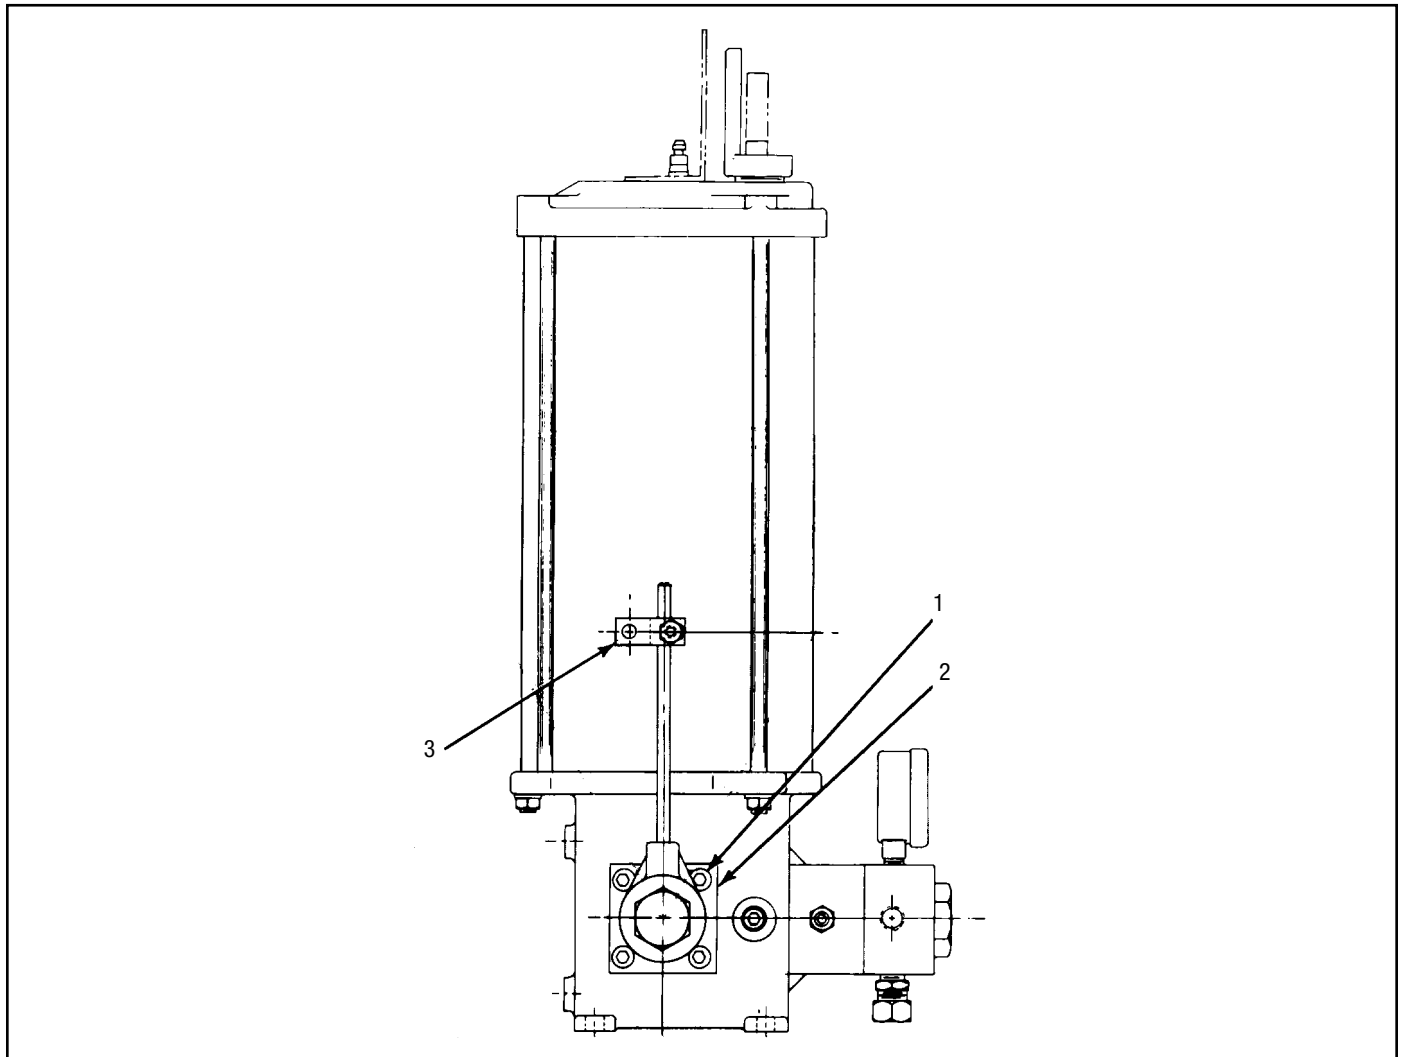
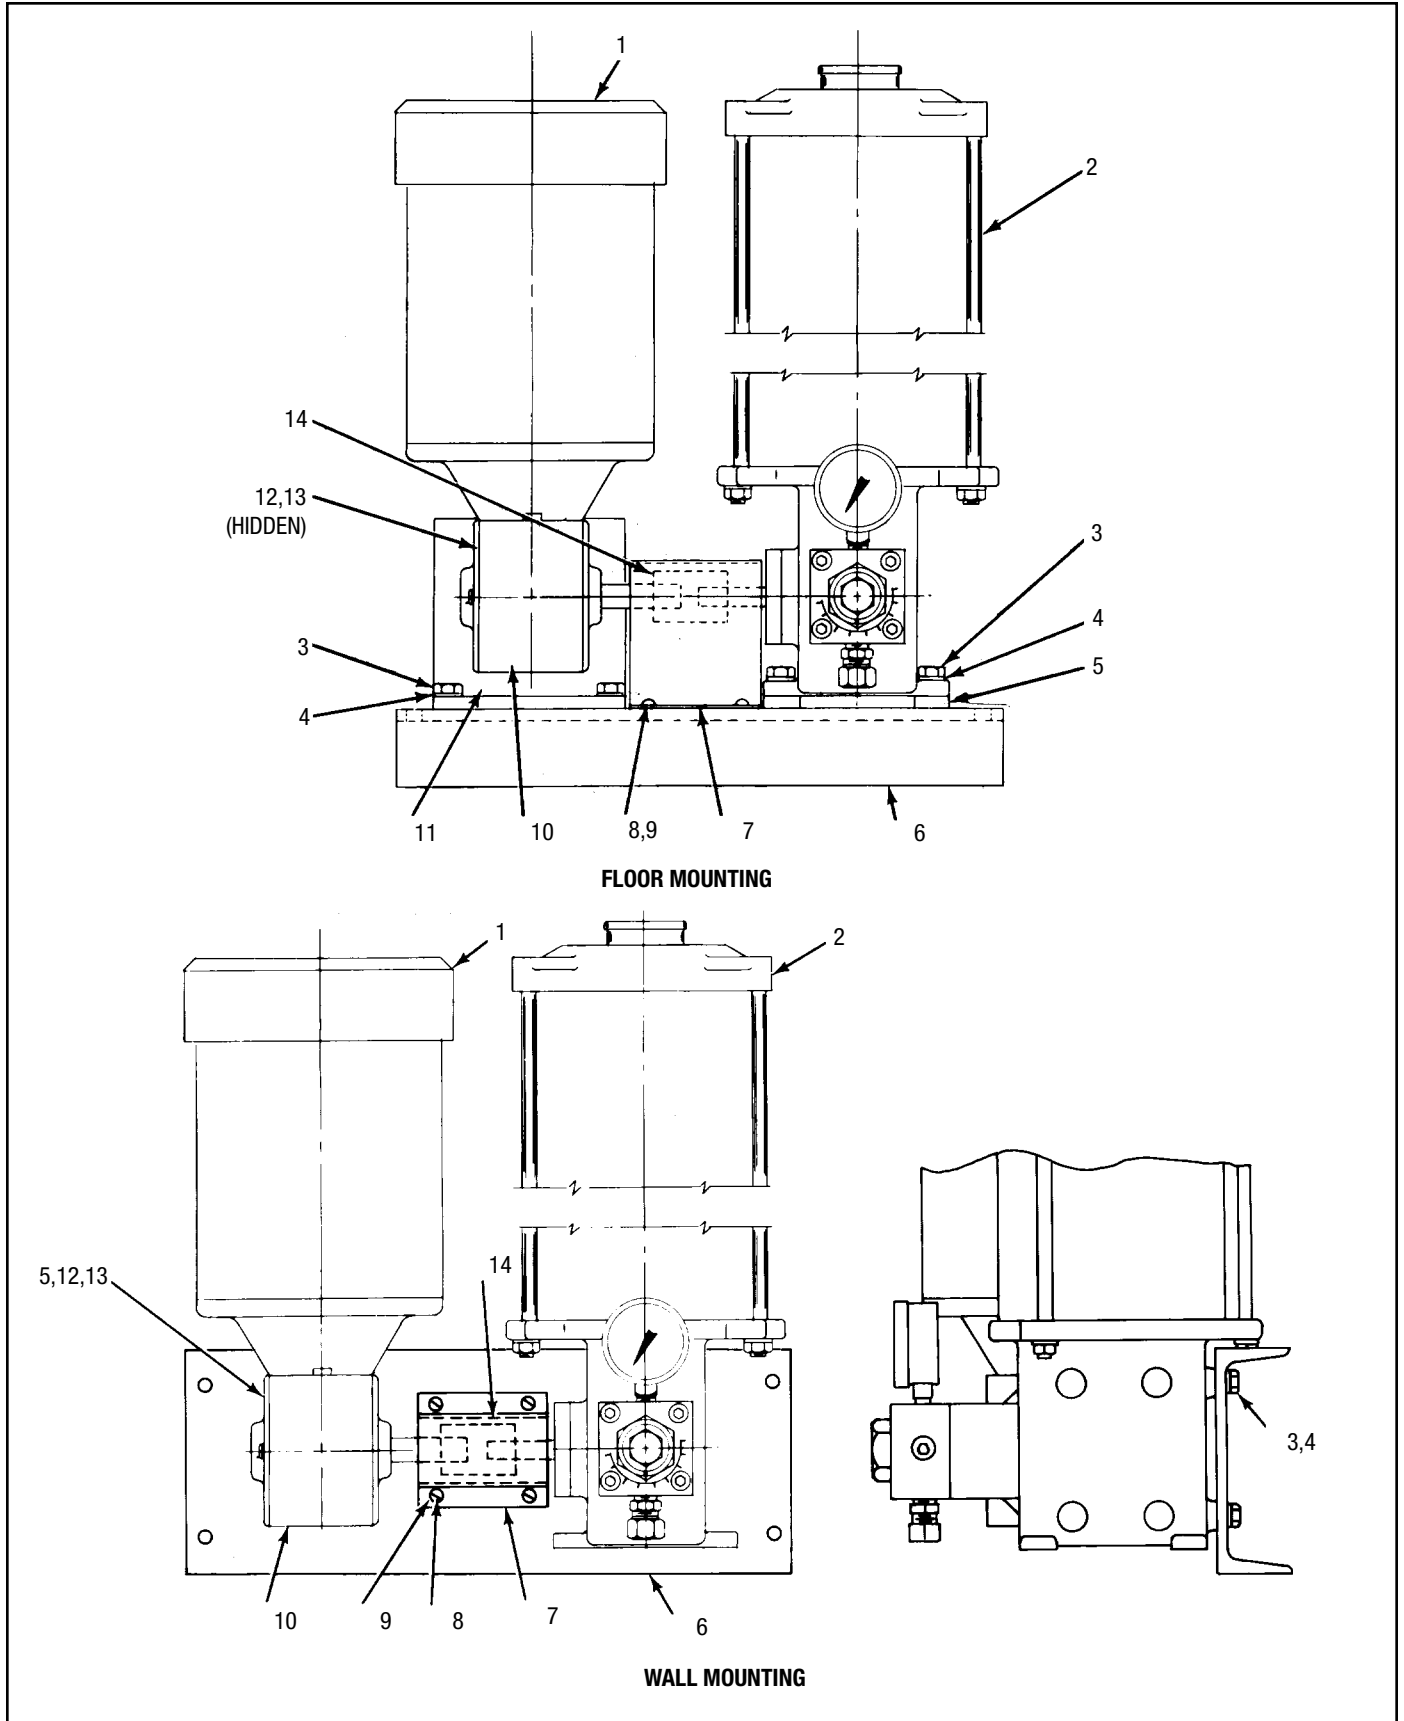

Figure 4-7. Clutch Drive
Figure 4-8. Motorized LUBEMASTER Pump with Gear Reducer and Motor (Up to 20 Lbs)
4.3.1 There is little maintenance required on the clutch drive (Figure 4-7) or the motorized LUBEMASTER Pumps (Figure 4-8). Refer to Sections 2 and 3 for maintenance on the reservoirs and pump. If troubleshooting, Section 8, indicates the need for maintenance of the clutch drive, motor or gear reducer, refer to Figures 4-7 and 4-8 and Tables 4-3 and 4-4 for replacement components.
TABLE 4-3 CLUTCH DRIVE ASSEMBLY (FIGURE 4-7)
TABLE 4-4 MOTORIZED LUBEMASTER PUMP, UP TO 20 LBS (FIGURE 4-8)